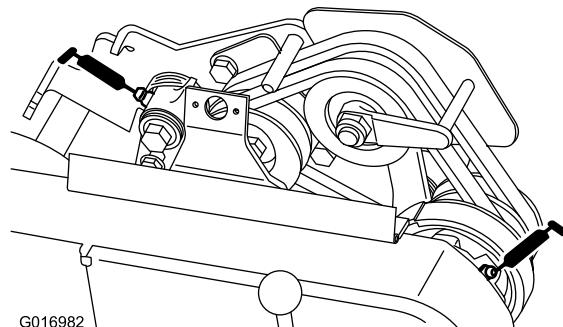

Figure 24
- 2 on the belt idler pivots (Figure 24).